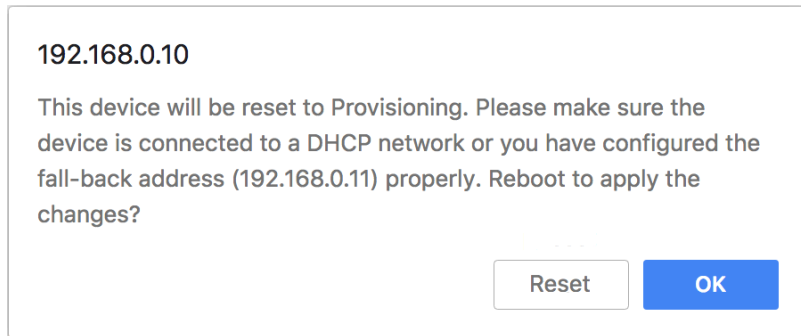

Figure 20. Unit reboot dialog (typical)
- The web browser will show the unit reboot dialog (Figure 20 \(page 45\)).